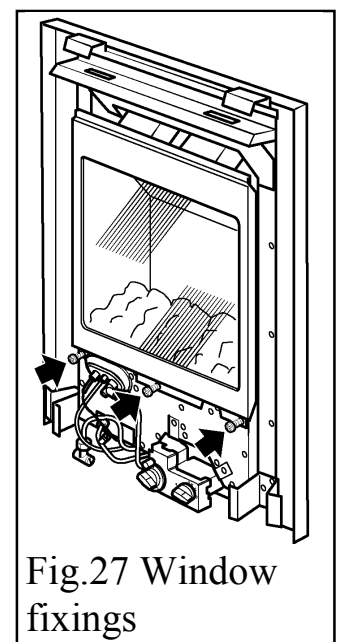

Fig.27 Window fixings
- Unscrew and remove the three spring-loaded window-fixing screws and washers from the base of the window frame. See figure 27.